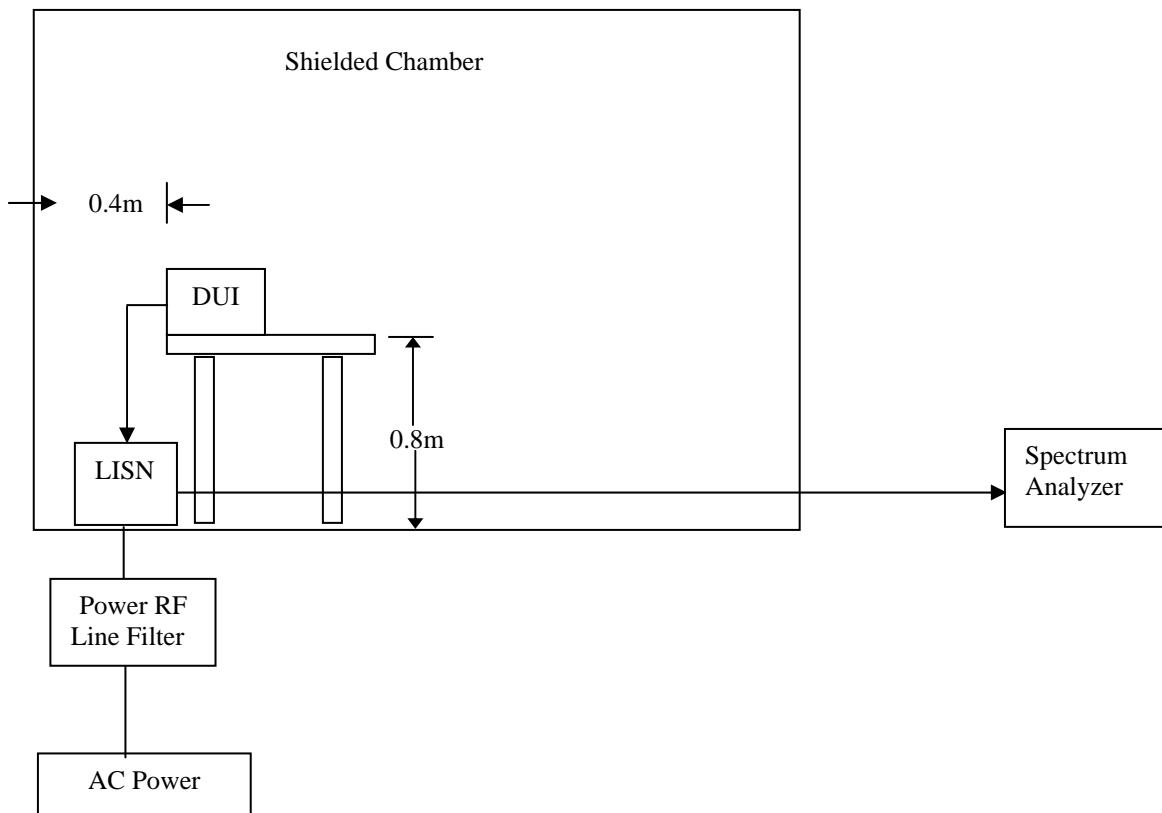

Figure a1: Conducted Emissions on Power Lines - Testing Setup
**Criteria:** For an intentional radiator, which is designed to be connected to the public utility (AC) power line, the radio frequency voltage that is conducted back onto the AC power line on any frequency or frequencies within the band 150 kHz to 30 MHz shall not exceed the limits shown in the following table. Compliance with this provision shall be based on the measurement of the radio frequency voltage between each power line and ground at the power terminals.
**Set-up:** Test setup from Figure a1 was used.